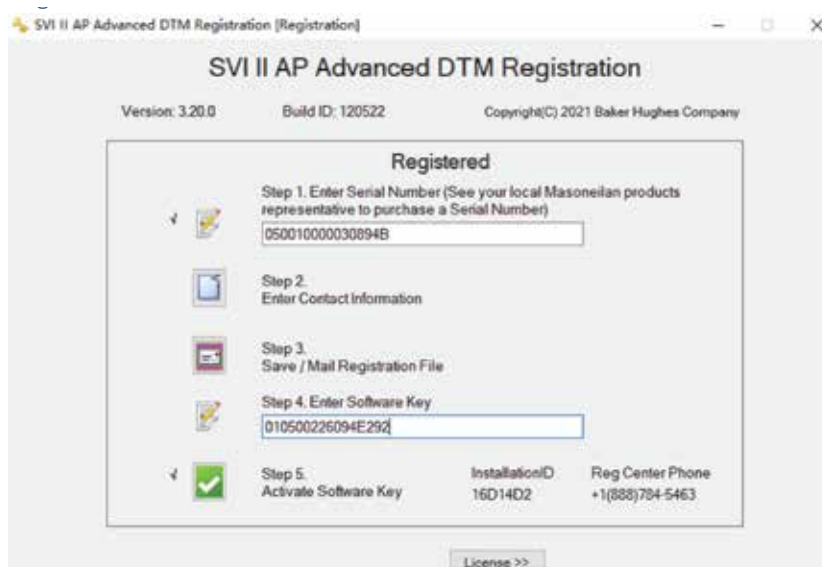

Figure 11 DTM Registration-Registered
2. Click  and Figure 11 appears.